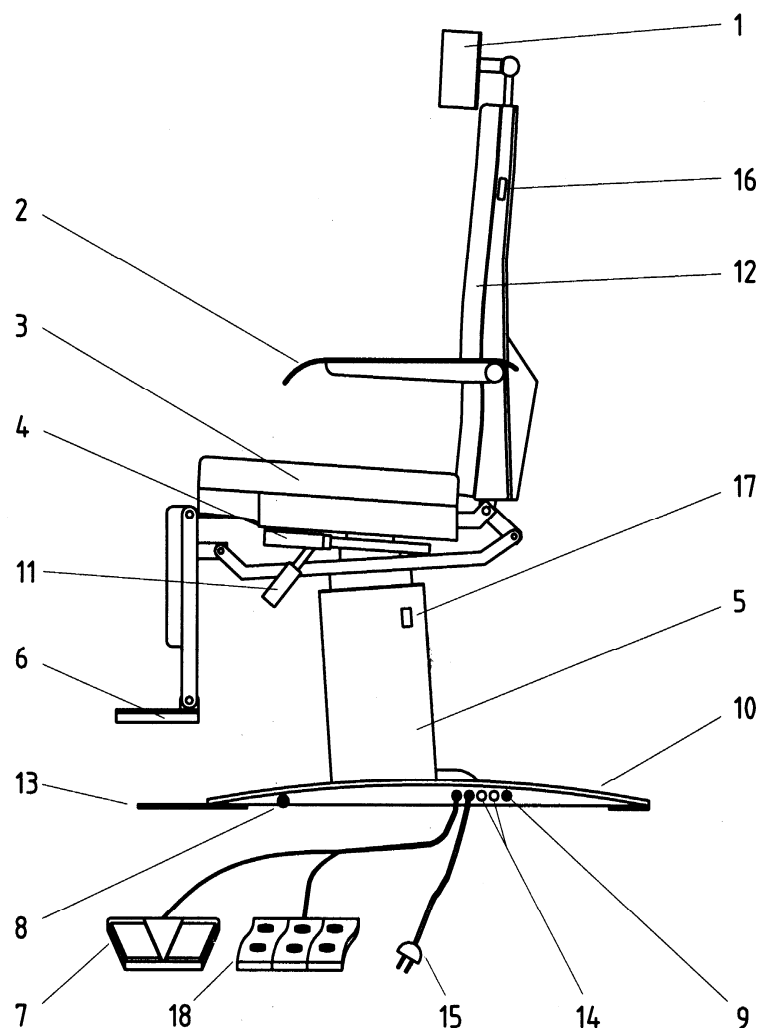
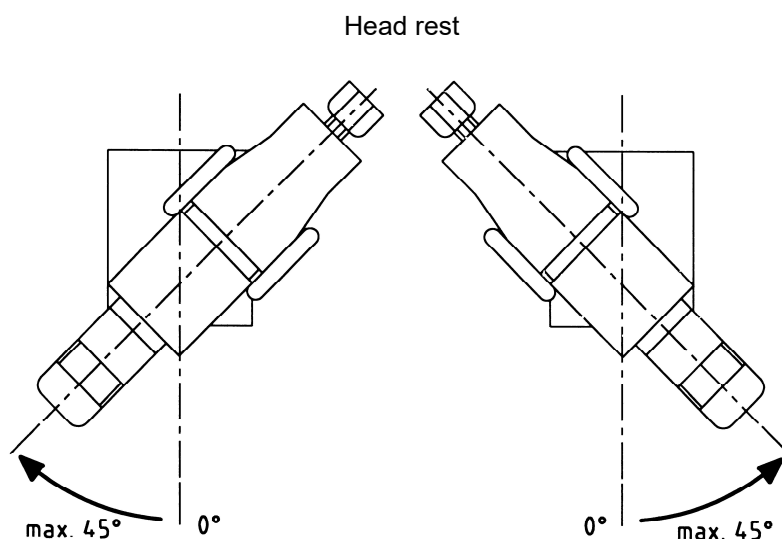
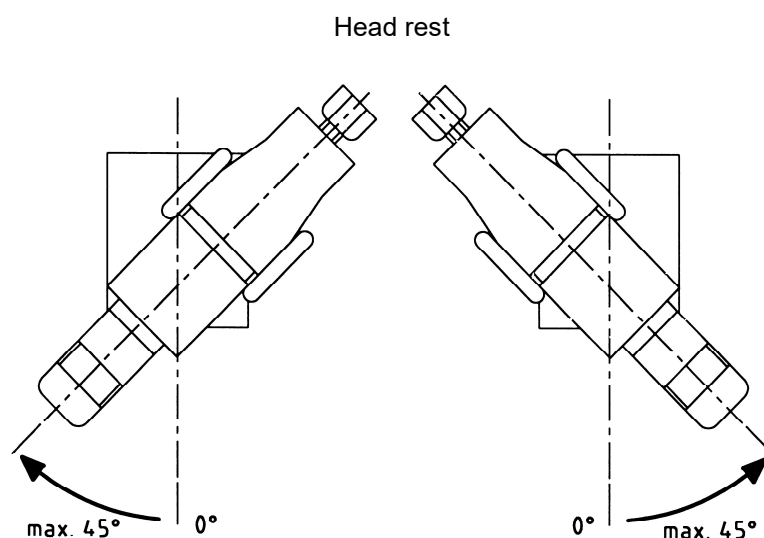

Fig. 1: View of the ENT treatment chair
Fig. 2: Permissible rotation angle if the back rest is in horizontal position (rotation $\pm 45^\circ$ the maximum!) (view from above)
Fig. 3: Permissible rotation angle if the back rest is in horizontal position (rotation $\pm 45^\circ$ the maximum!) (view from above)
<p>Attention</p> <p>Please be aware that the chair is not fixed to the floor. Therefore, the backrest must only be moved into the horizontal position if the rotatable top part of the chair is in the 0° position or rotated less than $\pm 45^\circ$ (Fig. 3)! That means, the backrest must not be inclined into the horizontal position (lying patient), if the rotatable top part of the chair is outside the permissible rotation angle of $\pm 45^\circ$ the maximum. If you wish to use the chair outside the $\pm 45^\circ$ angle in connection with the inclined backrest, the anti-tilt support (Fig. 1 (13)) must be installed. Please inform the customer service and order the anti-tilt support for subsequent installation.</p>
<p>Attention</p> <p>The ENT treatment chair is a medical device with moving parts. When adjusting the backrest, make sure that the patient's hands and arms rest permanently on the armrests (Fig. 1 (2)). This is the safe position for the patient. Improper use may lead to entrapment and crushing hazards!</p>
<p>Attention</p> <p>The footrest (Fig. 1 (6)) must not be used by the patient to get in or out of the chair! The footrest must not be loaded with the full body weight! Risk of mechanical failure and patient falling! The footrest is intended solely to support the patient's feet during examination and treatment.</p>
<p>Attention</p> <p>When the seat of the chair is moved downwards, please take care that no objects are underneath the seat (Fig. 1 (3)) or the footrest (Fig. 1 (6)). Pay special attention to the patient's feet and also to your own feet! Risk of crushing injuries!</p>
<p>Attention</p> <p>If the chair is equipped with a brake (Fig. 1 (11)) for locking the seat, the brake must always be locked while the patient is entering and exiting the chair to prevent the seat from accidentally turning away. Risk of falling!</p>
<p>Attention</p> <p>If the chair is equipped with a motor-supported seat rotation, ensure that the brake (Fig. 1 (11)) is always locked during examination and treatment. Otherwise, the seat may turn away unintentionally if the switch for seat rotation is pressed accidentally (e.g. by the user, by the patient, by other persons or objects).</p>
<p>Attention</p> <p>When adjusting the backrest, make sure that there are no persons or objects in the swivel range of the backrest (Fig. 1 (12)) as well as the footrest (Fig. 1 (6))! Always keep an eye on the area behind the chair! Please note that the simultaneous swivelling up of the footrest also requires a considerable amount of space towards the front. Risk of collision, trapping and fall hazards! Due to the strong lifting force of the motor-supported backrest, other equipment (e.g. ENT unit, instrument cabinet, video tower, microscope) could be damaged or knocked over in the event of a collision!</p>
<p>Attention</p> <p>After the plug of the mains connection cord (Fig. 1 (15)) is connected to the power supply, the treatment chair can immediately be operated as the chair is not equipped with an additional mains switch. To disconnect the chair from the mains, pull the mains plug out of the power socket. When setting up the chair in the room, make sure that the power socket is easily accessible at all times.</p>
<p>Attention</p> <p>The casing of the chair and the external foot switch (Fig. 1 (7)) are not protected against splashing water. So, please take care if you use liquids for cleaning and disinfection. The treatment chair must not be operated in areas subject to explosion hazards.</p>
The ENT treatment chair is equipped with a bolt for potential equalization (Fig. 1 (9)). We recommend to connect the chair to the potential equalization system.
<p>Please observe that the backrest must only be moved into the horizontal position if the rotatable top part of the chair is in the 0° position or rotated less than $\pm 45^\circ$ (Fig. 2)! That means, the backrest must not be inclined into the horizontal position (lying patient), if the rotatable top part of the chair is outside the permissible rotation angle of $\pm 45^\circ$ the maximum. If you wish to use the chair outside the $\pm 45^\circ$ angle in connection with the inclined backrest, the anti-tilt support (Fig. 1 (13)) must be installed. Please inform the customer service and order the anti-tilt support for subsequent installation.</p>
7.1 Adjusting the backrest (Fig. 1 (12))
<p>Attention</p> <p>The ENT treatment chair is a medical device with movable parts. Please ensure that the patient's hands and arms rest on the armrests (Fig. 1 (2)) while adjusting the backrest. This represents the safe position for the patient. Improper use may lead to entrapment and crushing hazards!</p>
By pressing down the adjustment lever (Fig. 1 (4)), the backrest is released from its locking position and can now be swivelled backwards. Once the desired position has been reached, the backrest has to be locked again by releasing the adjustment lever.
If the backrest is to be raised, first ask the patient to take the weight off the backrest. Then press down the adjustment lever (Fig. 1 (4)) to release the backrest from its locking position.
<p>Never press down the adjustment lever (Fig. 1 (4)) of the backrest (Fig. 1 (12)) under full body load! Always ask the patient to take the weight off the backrest (i.e. shift body weight forward). Otherwise, the backrest might come down all of a sudden! Risk of tipping and falling!</p>
The ENT treatment chair is optionally equipped with a motor-supported backrest. The adjustment of the backrest (Fig. 1 (12)) is controlled by operating the adjustment buttons (Fig. 1 (16)) integrated on the left and right of the backrest. When the backrest is adjusted, the footrest follows the movement of the backrest synchronously. That means, when the backrest is lowered, the footrest swivels upwards. If the chair is equipped with remote control, the backrest can be adjusted by operating the remote-control unit (see Chapter 7.10).
<p>When operating the motor-supported backrest, make sure that there are no persons or objects in the swivel range of the backrest (Fig. 1 (12)) as well as the footrest (Fig. 1 (6))! When lowering the backrest, always keep an eye on the area behind the chair! Please note that the simultaneous swivelling up of the footrest also requires a considerable amount of space to the front. Failure to observe this can lead to collision, trapping and fall hazards! Furthermore, due to the strong lifting force, other equipment such as an ENT unit, instrument cabinet, video tower, microscope etc. could be damaged or knocked over in the event of collision!</p>
The height of the chair can be adjusted by operating the foot switches (Fig. 1 (8)) which are integrated left and right at the base plate of the chair. The switches are designed in a two-step mechanism. Pushing the foot switch half the way in will lift the seat up. If the switch is pushed completely in, the seat will move down. The switches can either be operated from the left or the right side of the chair.
As an option the chair can be equipped with an external foot switch (Fig. 1 (7)). The symbols on the foot switch indicate the direction of the movement (up/down).
<p>When the chair is moved downwards please take care that no objects are underneath the seat (Fig. 1 (3)) or the footrest (Fig. 1 (6)). Please pay special attention to the patients' feet and also to your own feet.</p>
7.3 Locking the brake (Fig. 1 (11))
The brake is intended to lock the rotatable top of the treatment chair. With the lever (Fig. 1 (11)) being pushed downwards, the chair is locked in the current position. If the lever is pulled upwards, the brake is released.
<p>To avoid sudden unintended movements of the chair, the brake (Fig. 1 (11)) must always be locked while the patient is climbing or leaving the chair.</p>
<p>If the chair is equipped with a motor-supported seat rotation, ensure that the brake (Fig. 1 (11)) is always locked during examination and treatment. Otherwise, the seat may turn away unintentionally if the switch for seat rotation is pressed accidentally (e.g. by the user, by the patient, by other persons or objects).</p>
7.4 Operating the rotating seat (Fig. 1 (3))
7.5 Folding back the armrests (Fig. 1 (2))
7.6 Height-adjustment of the basic headrest (Fig. 1 (1))
<p>Attention</p> <p>The height adjustment of the headrest (Fig. 1 (1)) should always be carried out by using both hands! Please be careful to avoid unintentional removal from the guide.</p>
<p>Attention</p> <p>After each adjustment of the headrest (Fig. 1 (1)), it must be checked that the headrest is locked properly in the reached position! If necessary, readjust the height of the headrest slightly to ensure locking.</p>